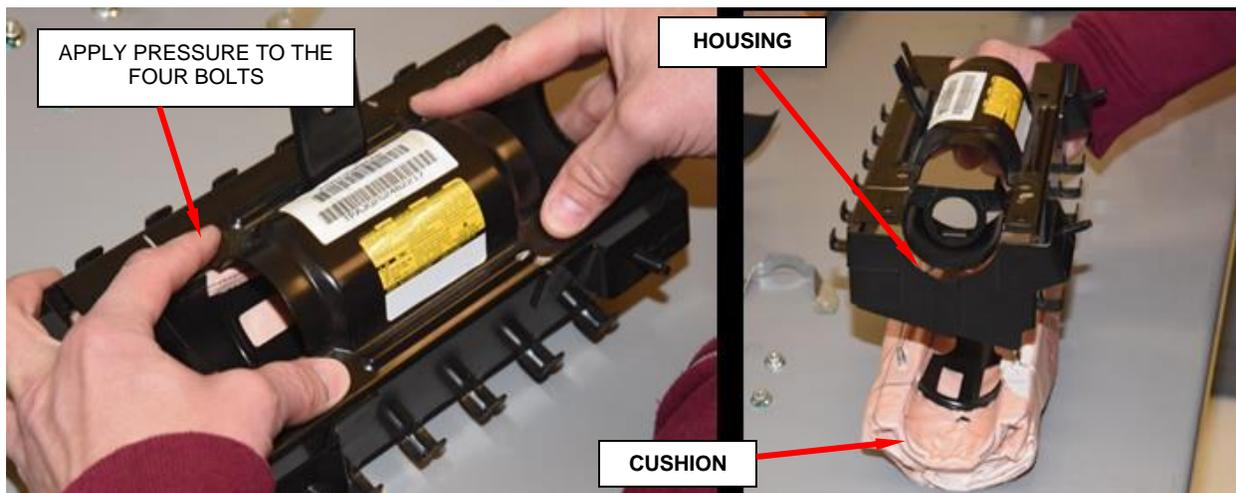

Figure 105 – Remove Airbag Cushion from Housing
- f. Remove airbag cushion from housing by applying pressure to the bolts, set cushion aside (Figure 105).